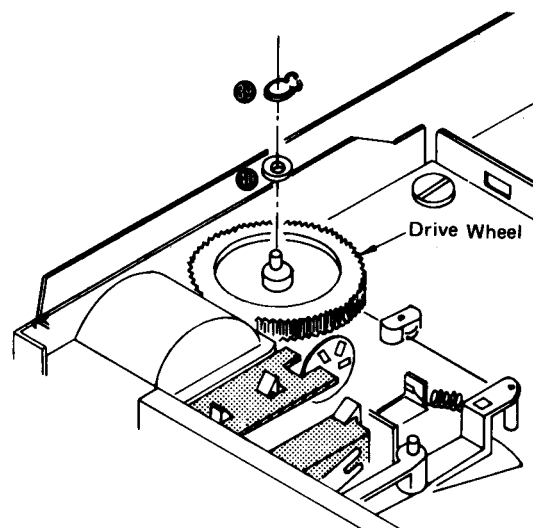

Fig. 14
3. Detach the arm drive wheel "C" ring ③ and washer ④, and remove the drive wheel. (See Fig. 14)